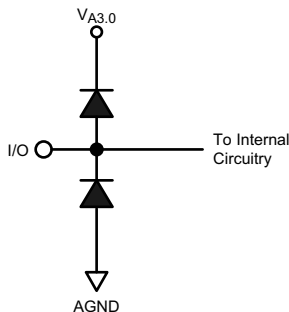

Figure 1.
- (1) The inputs are protected as shown below. Input voltage magnitudes above  $V_{A3.0}$  or below GND will not damage this device, provided current is limited per Note 4 of the Absolute Maximum Ratings table. However, errors in the A/D conversion can occur if the input goes above 2.6V or below GND as described in the Operating Ratings section see Figure 1.
- (2) Typical figures are at  $T_A = 25^\circ C$  and represent most likely parametric norms at the time of product characterization. The typical specifications are not ensured.
- (3) The input capacitance is the sum of the package/pin capacitance and the sample and hold circuit capacitance.
(1) The inputs are protected as shown below. Input voltage magnitudes above  $V_{A3.0}$  or below GND will not damage this device, provided current is limited per Note 4 of the Absolute Maximum Ratings table. However, errors in the A/D conversion can occur if the input goes above 2.6V or below GND as described in the Operating Ratings section see Figure 1.
(2) This parameter is specified in units of dBFS – indicating the equivalent value that would be attained with a full-scale input signal.
- The inputs are protected as shown below. Input voltage magnitudes above  $V_{A3.0}$  or below GND will not damage this device, provided current is limited per Note 4 of the Absolute Maximum Ratings table. However, errors in the A/D conversion can occur if the input goes above 2.6V or below GND as described in the Operating Ratings section see Figure 1.
- (2) This parameter is a function of the CLK frequency - increasing directly as the frequency is lowered. At frequencies less than 130 MHz, use the following formulae to calculate the setup and hold times: